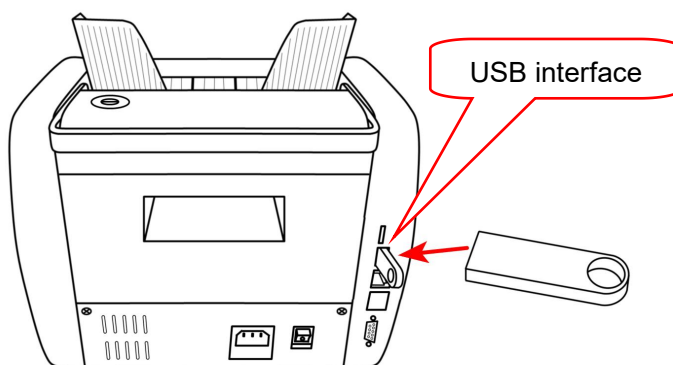

Figure 91
1) Insert the U-disk into the USB interface of the machine when the machine is off, as shown in Figure 91 below: